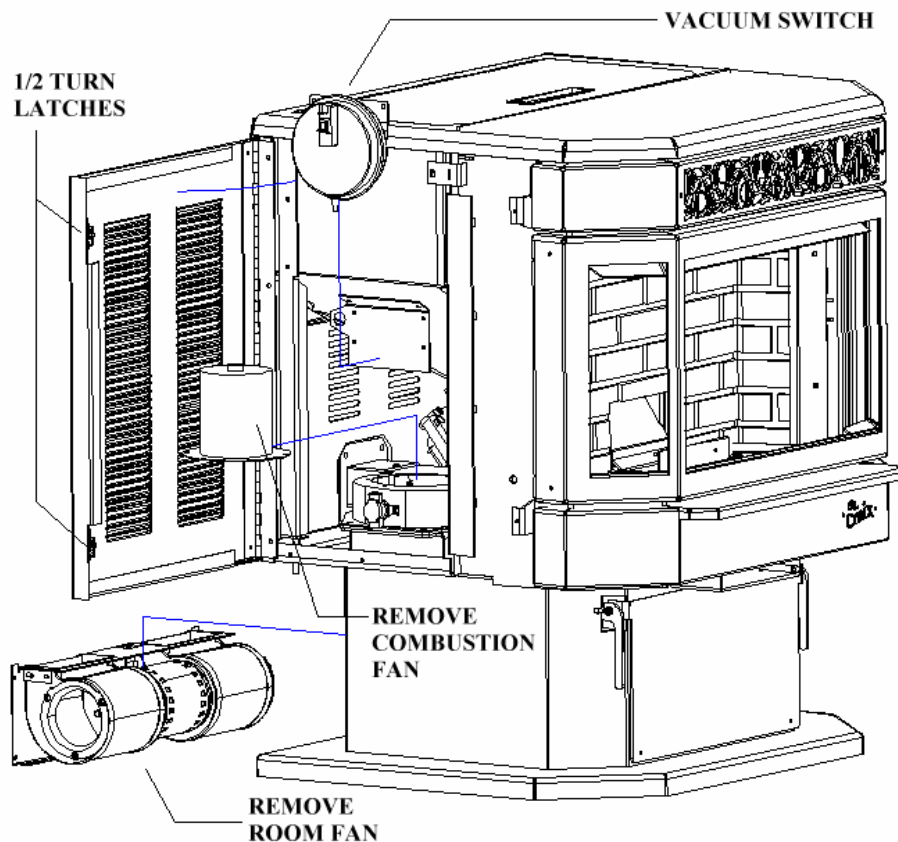

Figure 9
4. The Exhaust & Room Fan should be removed and cleaned annually. Call dealer for this service. Annual oiling of the motors is not needed. (See fig. 9 below for more information.)